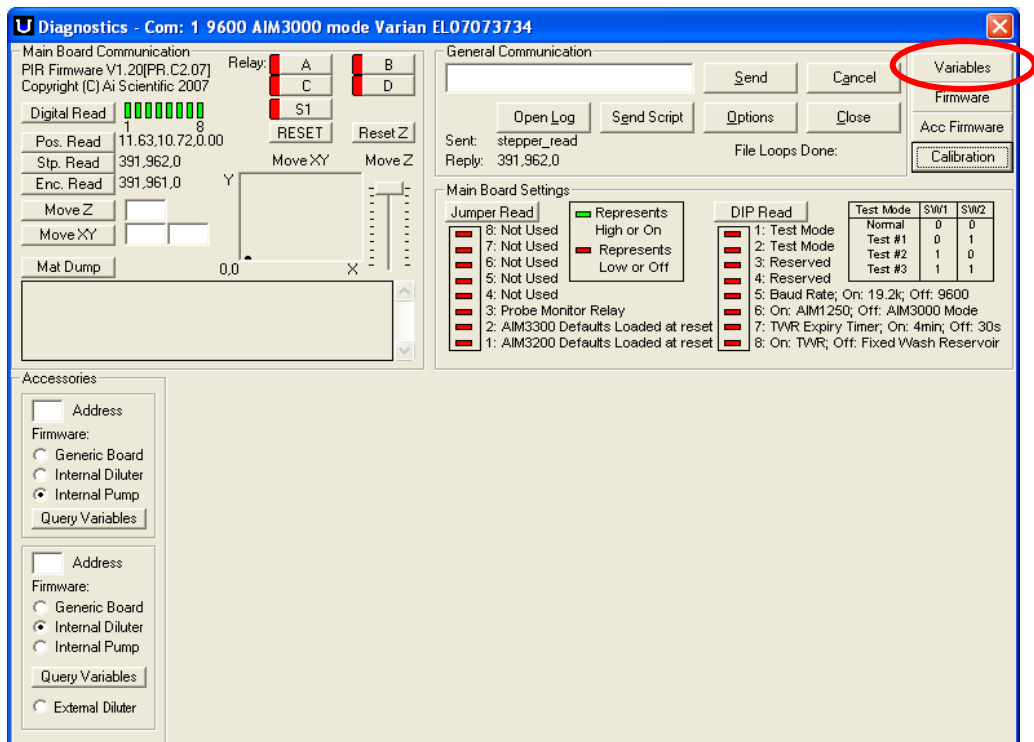

Figure 32. Diagnostics Section of the SPS Software
8. Insert the customer Details and Serial number of the unit. Then click the Diagnostics Button. You should now see the screen in Figure 32.
- Select the Variables option (Figure 32) and that should open the Calibration Variables Page.